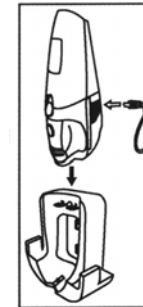

Fig. 1
3. Place the unit in the charging base. The charging indicator light will shine green to indicate that the vacuum cleaner is properly positioned in the charging base and that the unit is being charged. (See Fig. 1)